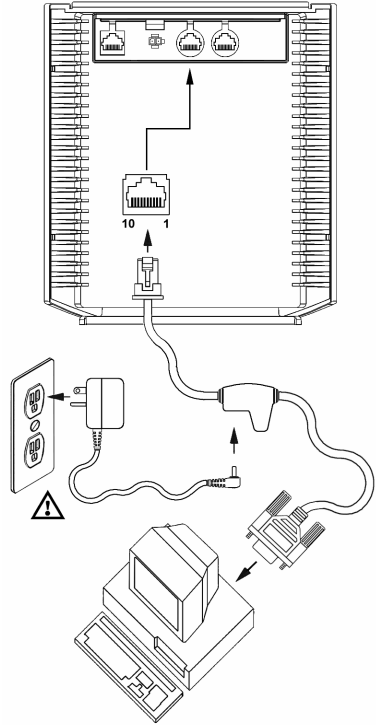

Figure 5: RS232 or Light Pen Interface
2. Connect the PowerLink cable to the 10-pin RS232/Light Pen interface jack. It is the 1st **round** opening from the left side of the MS7320 (see figure 5).